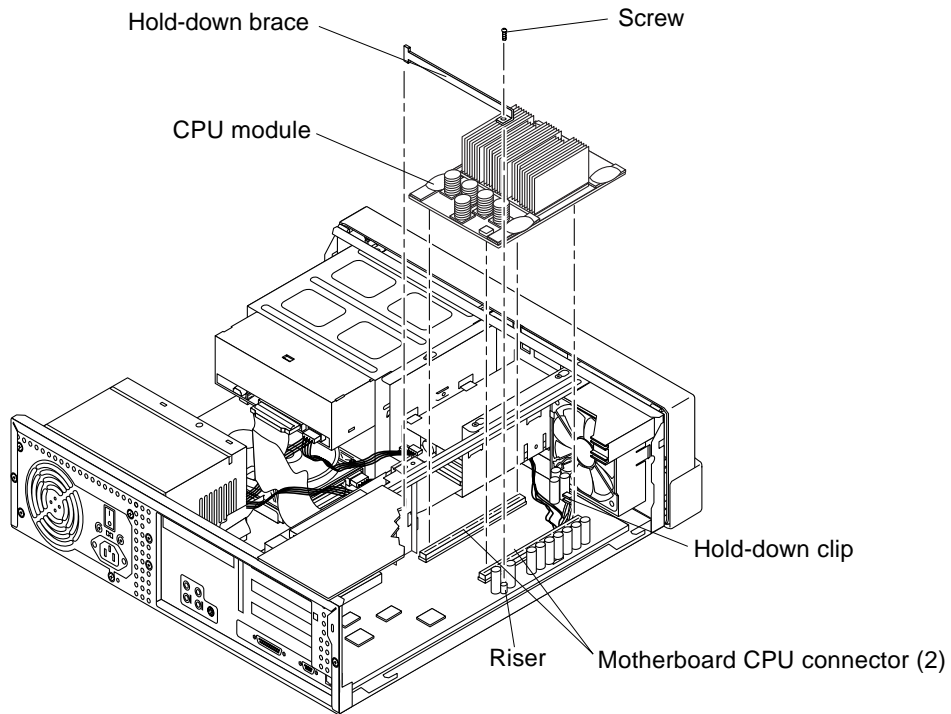

FIGURE 1-7 Removing and Replacing the Ultra 5 CPU Module
2. Remove the CPU module as follows (FIGURE 1-7):
1. Replace the CPU module as follows (FIGURE 1-7):